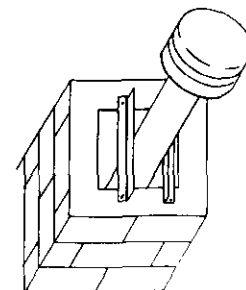

Figure 12 (4-009)
**WARNING: SUPPORT TYPE B VENT LINER IN MASONRY CHIMNEY. MAINTAIN AT LEAST A 1" CLEARANCE ON ALL SIDES TO REDUCE POSSIBILITY OF CONDENSATE IN VENT. CONDENSATE MAY CAUSE VENT TO DETERIORATE ALLOWING COMBUSTION PRODUCTS TO COLLECT IN STRUCTURE, WHICH COULD RESULT IN INJURY OR DEATH. SEE FIGURE 12.**